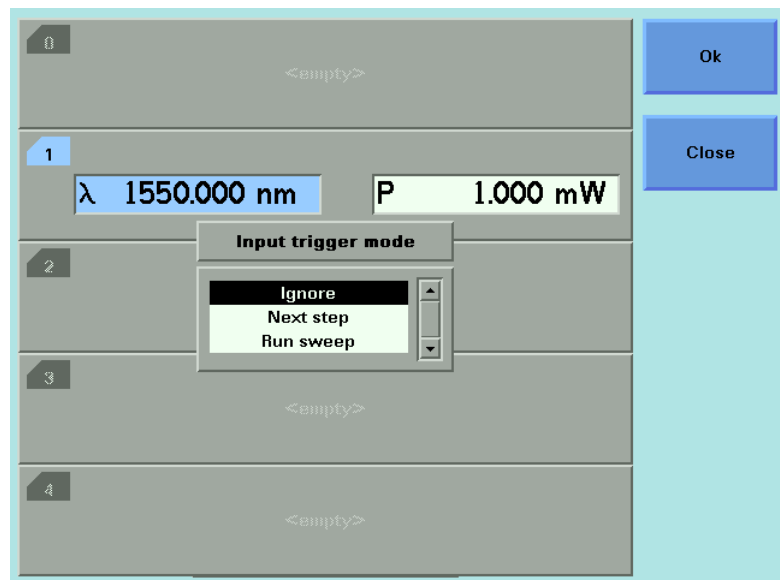

Figure 21 Input Trigger Mode
- 3 Move to <Input Trigger Mode>, by using the cursor key, and press ENTER. You will see the screen in Figure 21 .